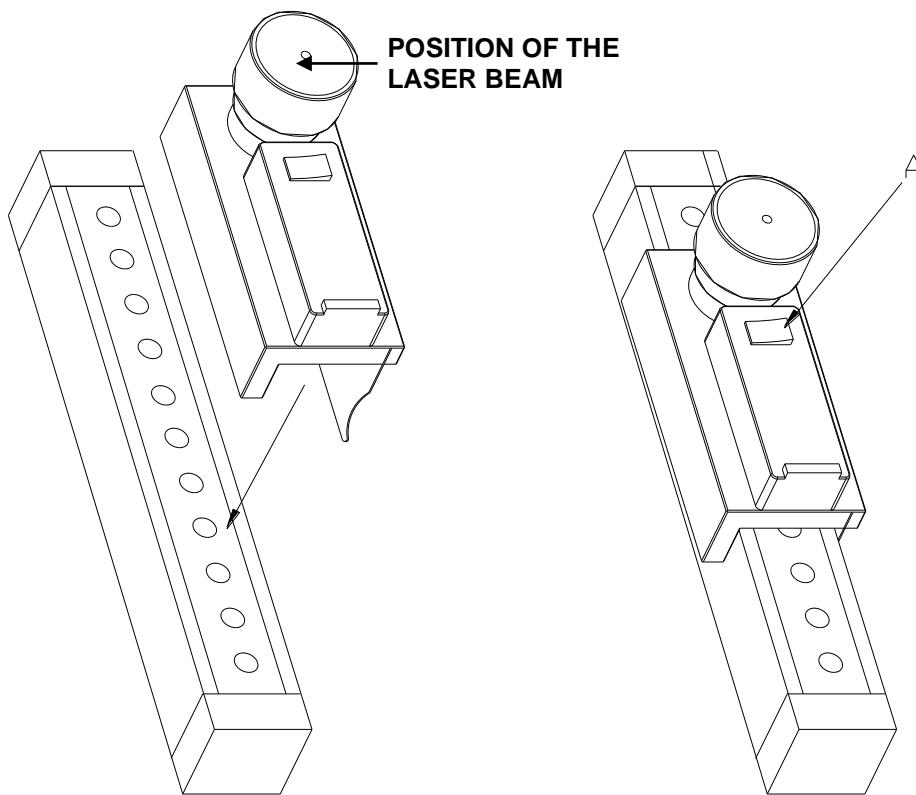

Figure 1
- Hook the LAD4 to the emitter along its vertical axis on the side of the optical window (**see fig. 1**). The correct coupling insures a following good work.
- Power on the LAD4 (**see fig.1, detail A**).
➔ ***When repeating the test, never turn the LAD4 upside down: the laser beam must always be positioned as shown in Figure 1.***